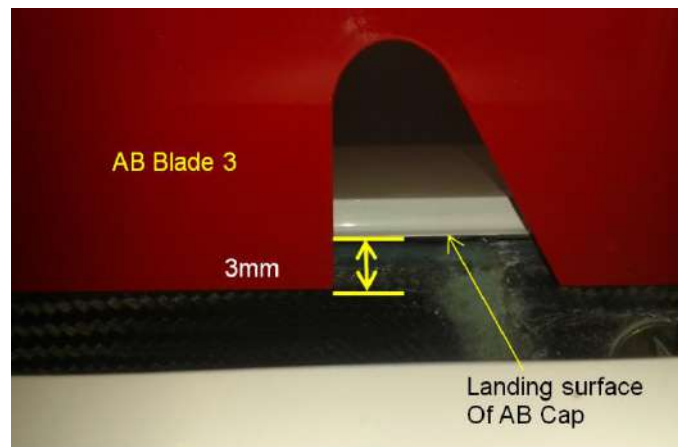

Figure 27-28: Blade 3 AB Box overlap
15. Open the airbrakes to the stop—check that blade 3 is a minimum of 3 mm into the AB box as in Figure 27-28, to prevent the blade from jamming in the open position.